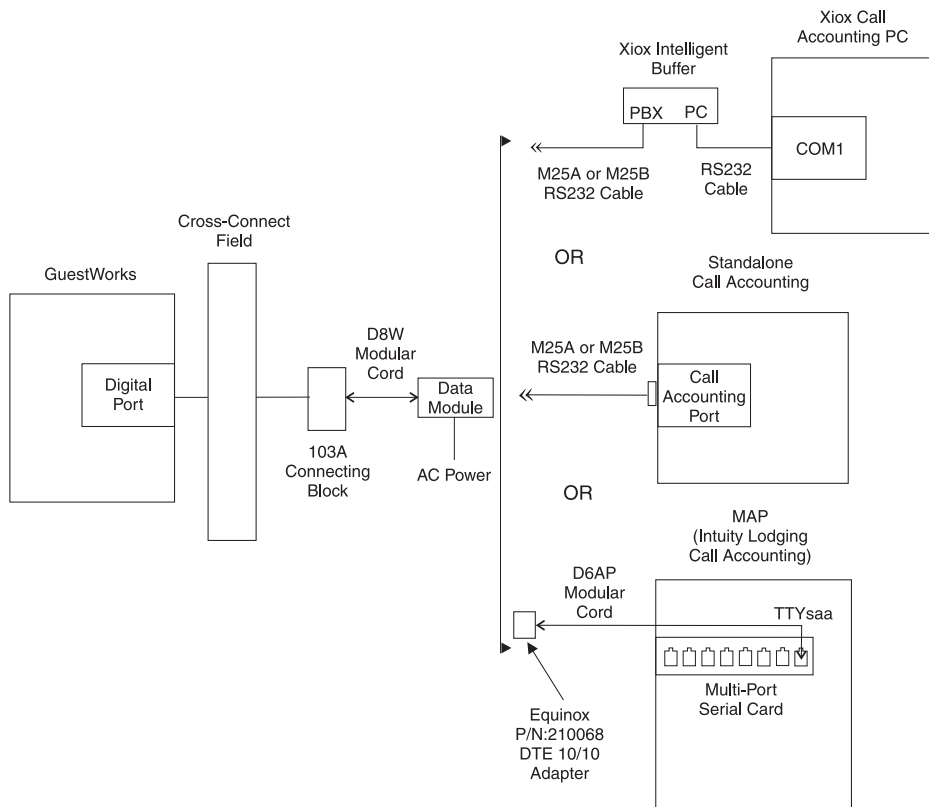

Figure 14. Switch-to-Call Accounting Link using DCP Data Modules
Figure 14 shows the connection between the switch and the call accounting system (INTUITY Lodging Call Accounting or stand-alone call accounting) when using a DCP data module. Use these connections for *r* systems.
5. Reconnect the unit as shown in Figure 14.
6. Reconnect the unit as shown in Figure 14.